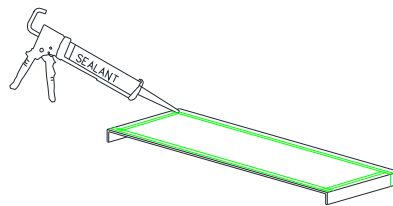

Figure 10:
- With bottom side of sillpan up, apply a 3/8" bead of compatible sealant 1/2" in from interior leg. Sealant bead to run across the bottom as well as up each vertical leg of the sillpan. Also apply sealant beads near the sides and across the front (Figure 10).